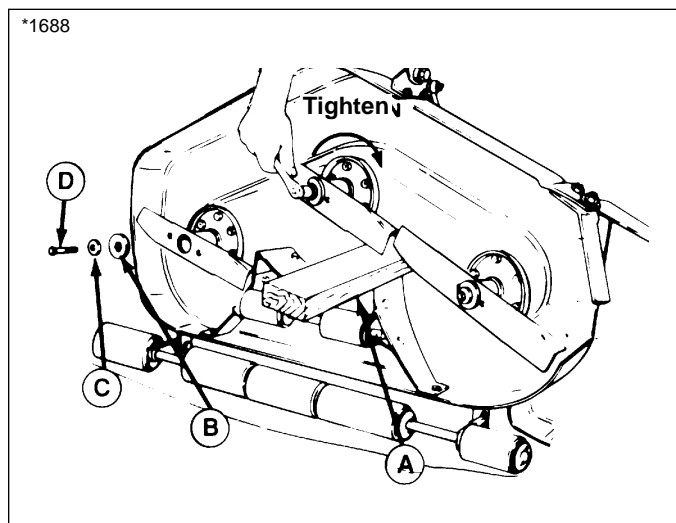

Figure 23. Installing The Blade
6. Reinstall each blade with the tabs pointing up toward deck as shown in figure 23. Secure with a capscrew (D), cup washer (C) and spline washer (B). Use a wooden block to prevent blade rotation and torque capscrews to 50-70 ft.lbs. (67-95 Nm.).